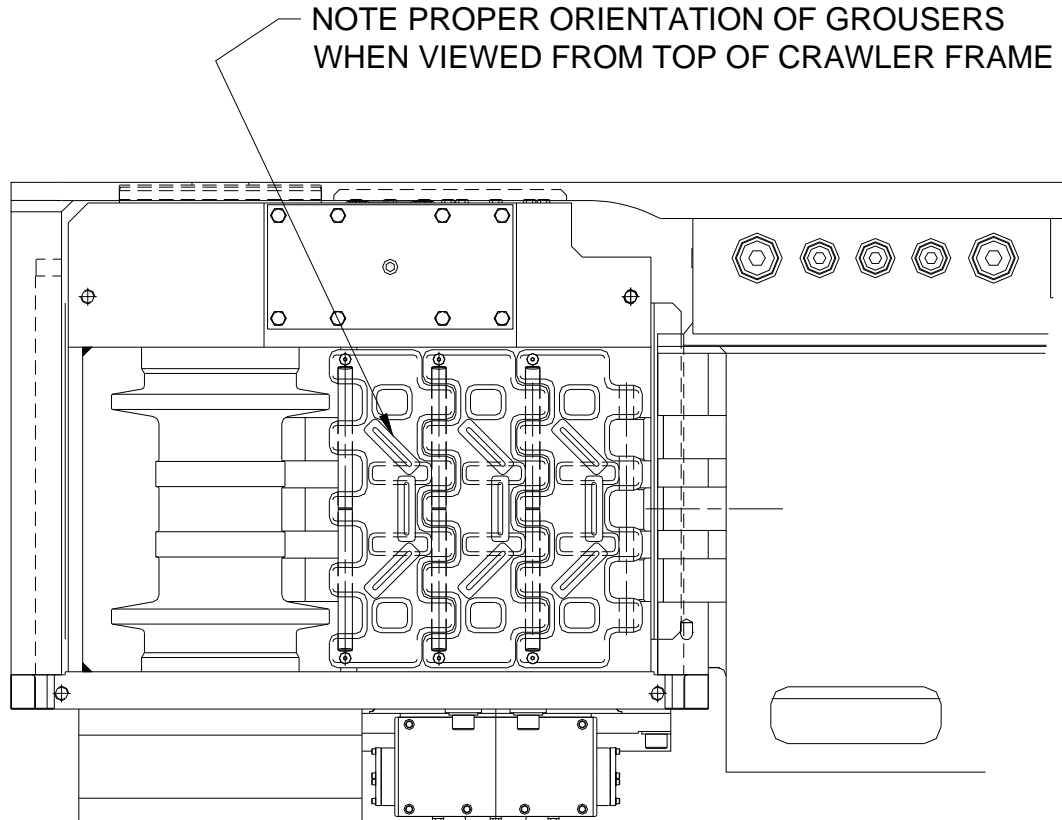

Figure 8.11
2. Lay the crawler chain on the mine bottom at the rear of the miner and extending back from the miner. The grousers should be on the bottom side on the mine bottom. (see figure 8.11 for correct direction).